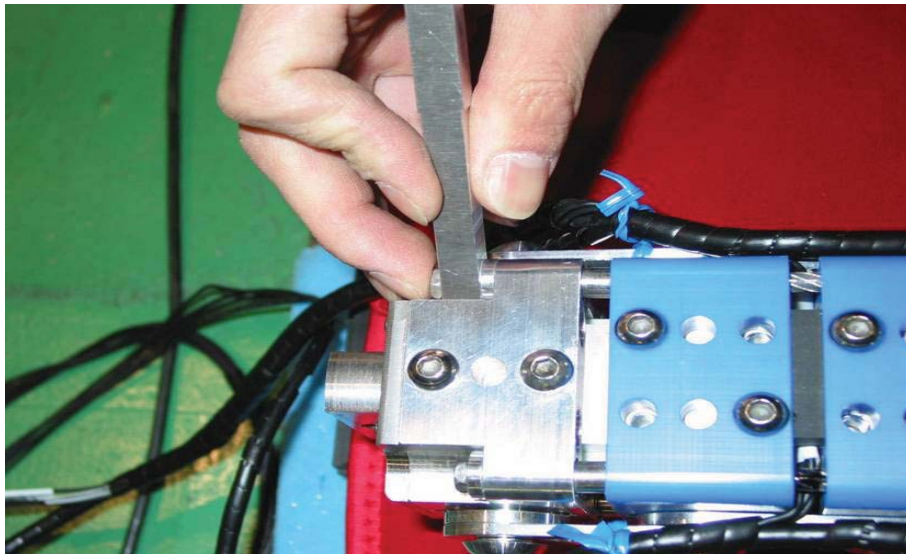

Figure 65 . Stop cable clearance adjustment using setting tool
Step 1: Check the eight M8 set screws shown in Figure 65 are tightened to 8 Nm
Step 3: Check the four stop cable clearances passing through the femur is set to 9.1 mm and 10.3 on the tibia. See Figure 65 and special tool 133-5112 is used for this.